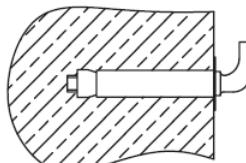

FIG 2
2. After selecting a proper location, determine the positions of the two install holes used for expansion bolts with hook (determined according to the specification of the product you select). Make two holes in the wall with the corresponding depth by using a chopping bit with the size matching the expansion bolts attached with the machine, insert the screws, make the hook upwards, tighten the nuts to fix firmly, and then hang the electric water heater on it (see Fig.2).